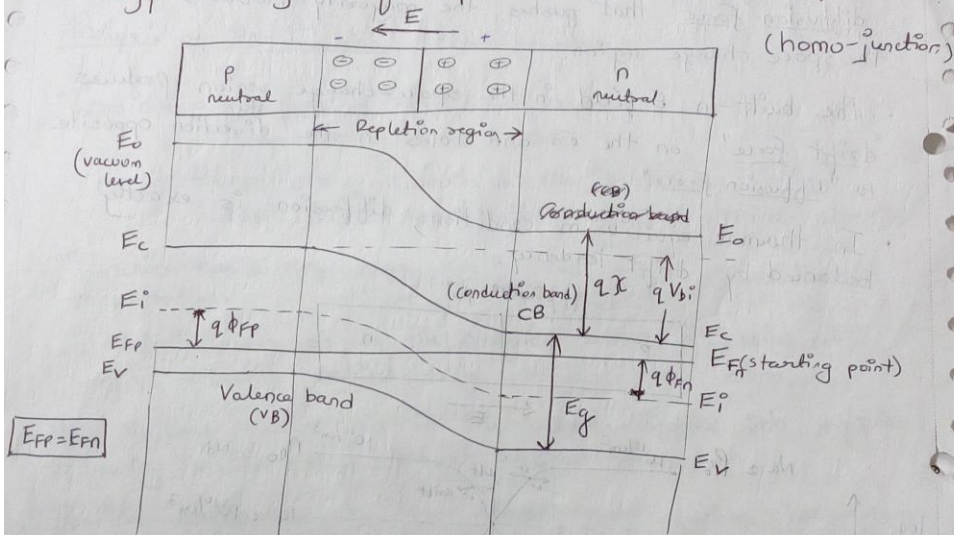

fig 4: EBD of PN Junction in thermal equilibrium
The intrinsic Fermi level (E_i), is equidistant from the CB edge through the junction, \rightarrow thus the built-in potential (V_{bi}) can be determined as the difference between the intrinsic Fermi levels in the p and n regions - (1) (Refer fig 4)